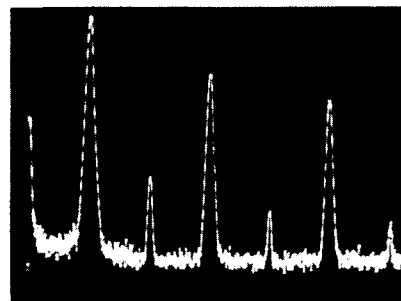

Figure 5-3. Triangle Adjustment: HF
8.3 Adjust A15R37 for minimum 2nd harmonic. (Figure 5-3). Then turn CW to verify level is 50 dB below fundamental.